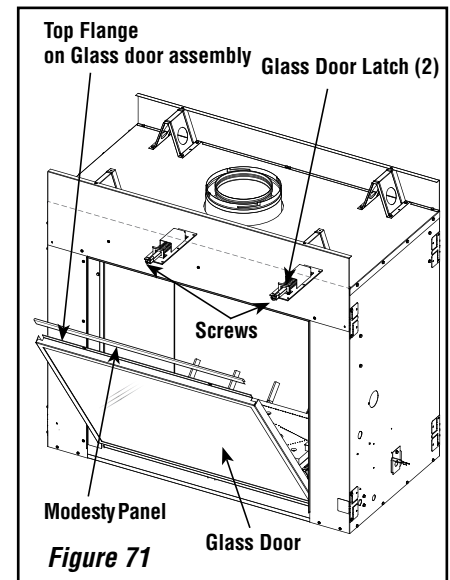

Figure 71
Installing Glass Doors, Barrier, and Modesty Panel (see Figure 71)
- b) Position the door in front of the firebox opening, with the top of the door held away from the fireplace (see Figure 71).
- d) Using a #3 Phillips screwdriver, fasten the door frame to the door latches with the two (2) latch screws. The latches should pull forward to engage the door frame.
- 2) Install the modesty panel on the top flange of the glass door, as follows (Figure 71):
Removing Glass Doors, Barrier and Modesty Panel (see Figure 71)
- a) See Figure 71. **While holding the top of the glass door frame in place**, use a #3 Phillips screwdriver to remove the two (2) screws securing the door frame to the two (2) door latches.
- b) Carefully tilt the top of the glass door frame away from the unit (as shown in Figure 71), and then lift the door assembly up and out of the lower track.